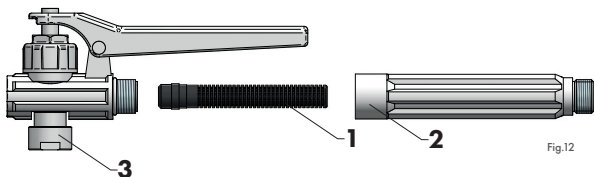

Fig.12
Move the sprayer to the work site. Use the piston rod (fig. 7c) to pump the sprayer (around 20 full motions) until the safety valve operates (fig. 7a/pos. 1). As soon as the safety valve opens (fig. 7a/pos. 1), maximum tank pressure has been reached. Monitor the tank pressure on the pressure gauge (fig. 12/pos. 3).
During operation, the pressure in the tank will decrease. Monitor the pressure on the pressure gauge (fig. 12/pos. 3). Restore the tank pressure by pumping.
The filter (fig. 12/pos. 1) located on the lance handle (fig. 12/pos. 2) and the adjustable nozzle (fig. 10/pos. 1) located at the lance tip (fig. 1/pos. 1) must be cleaned periodically and before any prolonged downtime.